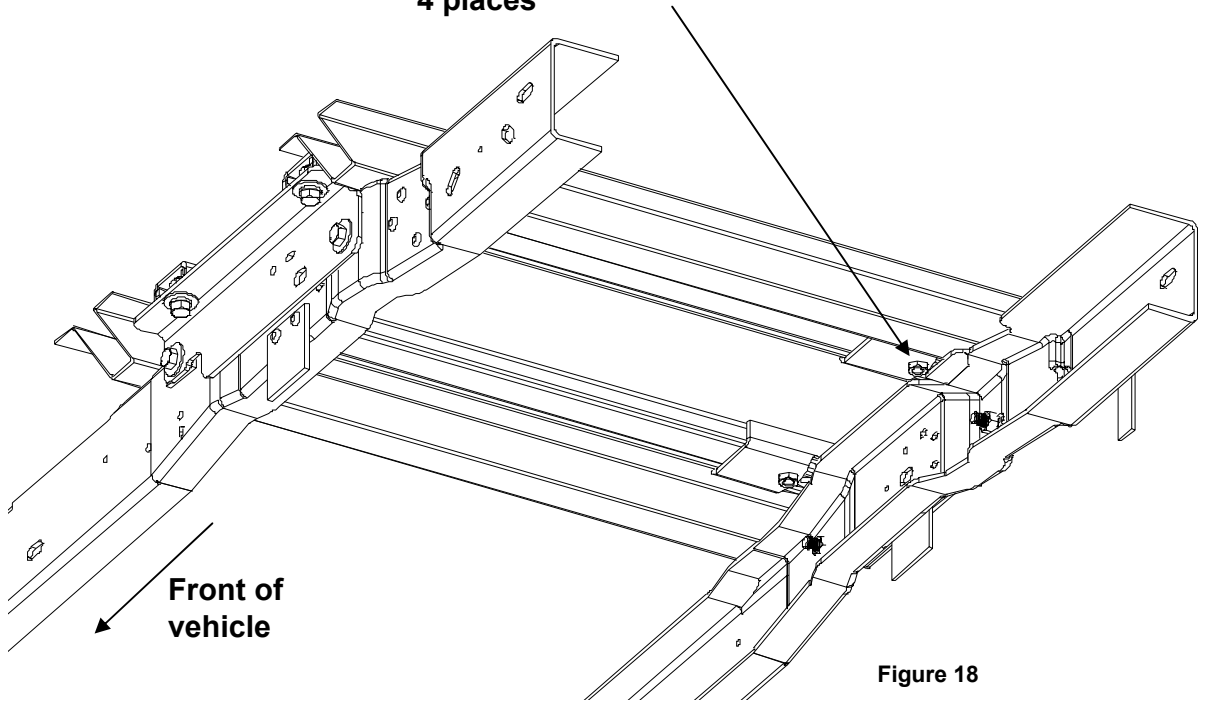
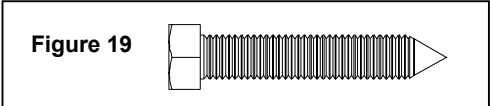
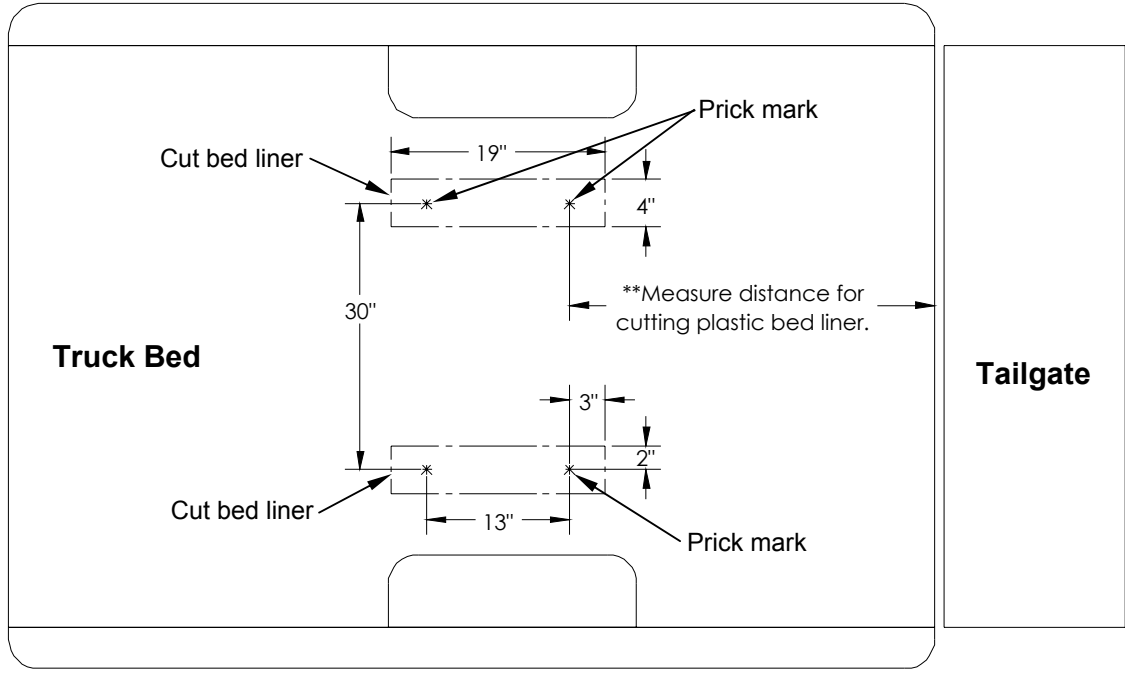

Figure 18
Figure 19
Figure 20
14. Using pointed bolt (**Figure 19**), screw pointed bolt in to the nut that is welded to the rail assembly until a prick mark is clearly visible on the truck bed (**Figure 18**). If access to a welded nut is obstructed by chassis components, a fourth prick mark should be made on the bed based upon measuring from the other prick marks (**Figure 20**). If a plastic bed liner is used cut 19" X 4" slots in the liner measured from prick marks in truck bed. If the *Signature Series* slider fifth wheel assembly is used, then see fifth wheel slider assembly instructions for slot cut dimensions.